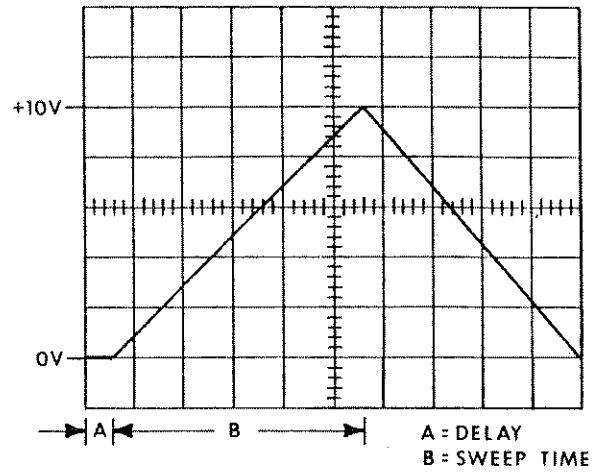

Figure 4.5. Sweep Time (Fast)
**FAST RATE** — Connect the SCOPE HORIZ output to the oscilloscope's vertical input. Adjust the oscilloscope controls for an automatic, internally generated and triggered sweep of 1 msec/div, and a vertical sensitivity of 2 V/div. Set the FUNCTION switch for  $\Delta F$ , SWEEP MODE for RECUR, SWEEP RATE for FAST, and the SWEEP VARIABLE control fully right. Adjust the oscilloscope's position controls and trigger level for a waveform similar to Figure 4-5. The peak voltage of the waveform should be  $+10 \pm 0.2$  V. The clipped (minimum) level should be  $0 \pm 0.2$  V.
Set the SWEEP MODE for SINGLE, the SWEEP VARIABLE control fully right, and set the oscilloscope to trigger on an external signal. Press the TRIG pushbutton. The oscilloscope should display a single sweep trace similar to Figure 4-5, and then blank.